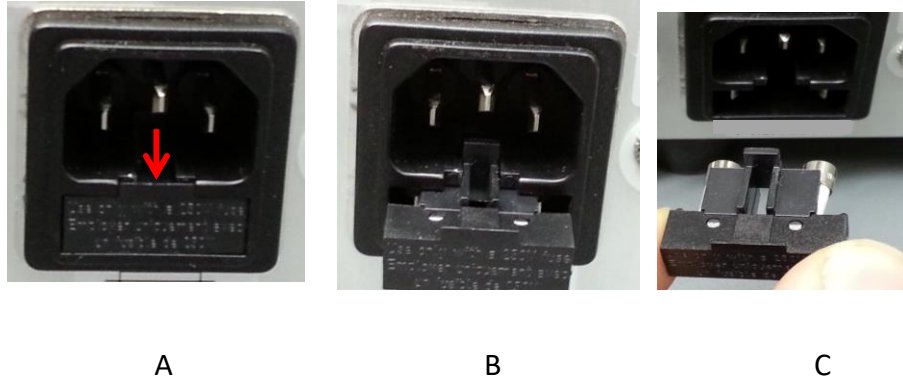

Figure 9 Location and Removal of Fuse Tray in AC Receptacle
- a. Check both main power fuses. First disconnect the power cord, then carefully remove the fuse tray assembly next to the AC receptacle on the rear of the unit. Note: depending on the orientation of the AC receptacle, the fuse tray may be below or beside it. The red arrow in figure 9 (A) shows where a flat screwdriver can be inserted to gently lever out the fuse tray.